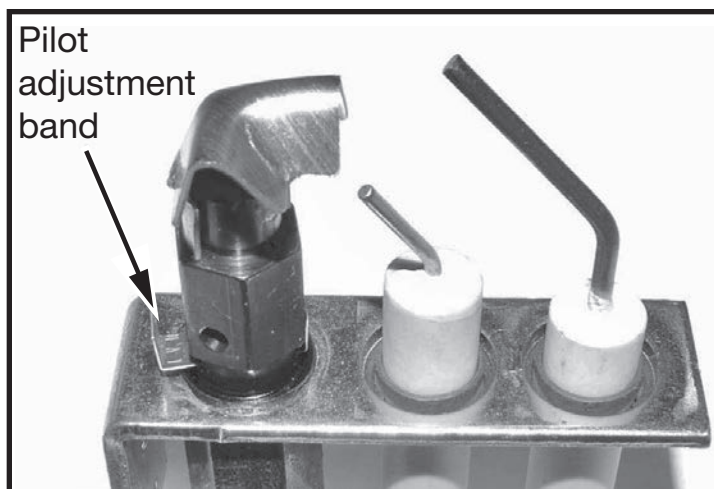
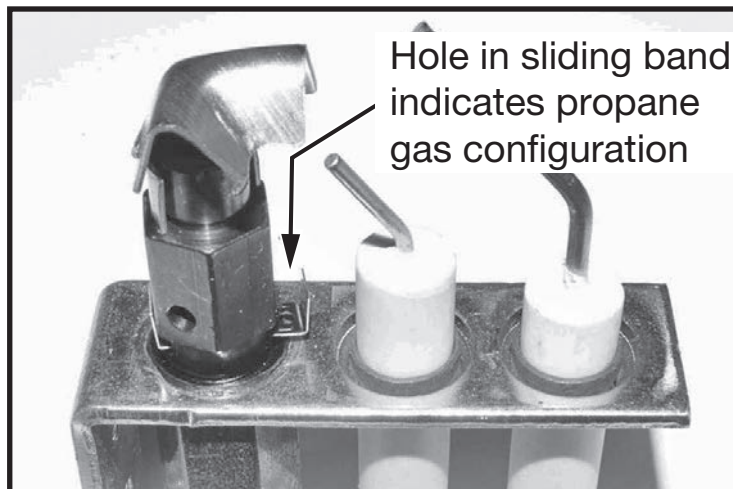

Figure 22: Pilot band in natural gas position.
Figure 23: Pilot band in propane gas position.
9. Slide the pilot adjustment band over and ensure that the hole in the orifice band is showing. Figure 22 shows the pilot band in natural gas position. Figure 23 shows the pilot band in propane position.